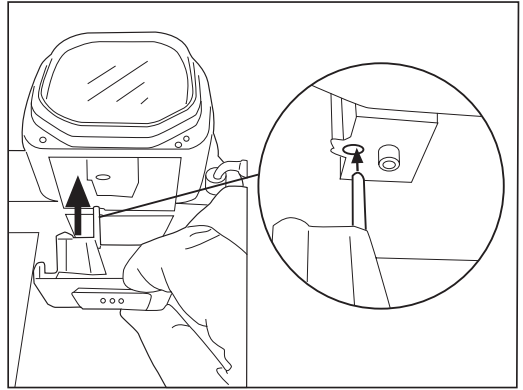

Fig. 19
- Replace the hopper on the machine body by pressing until the clips engage (**Fig19**)
NOTE: the hopper cylinder must be inserted into the hole provided (**Fig. 19**)